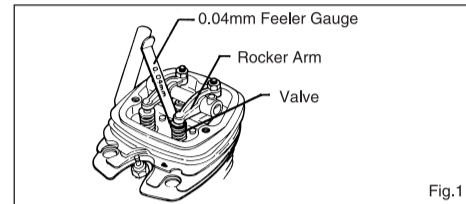

Fig.1
3. The standard valve clearance, on both inlet and exhaust valves, is between 0.04mm and 0.1mm(0.0015-0.004 inch), measured between valve stem and rocker arm. Use the 0.04mm and 0.1mm feeler gauges to check clearances. (See Fig.1.)